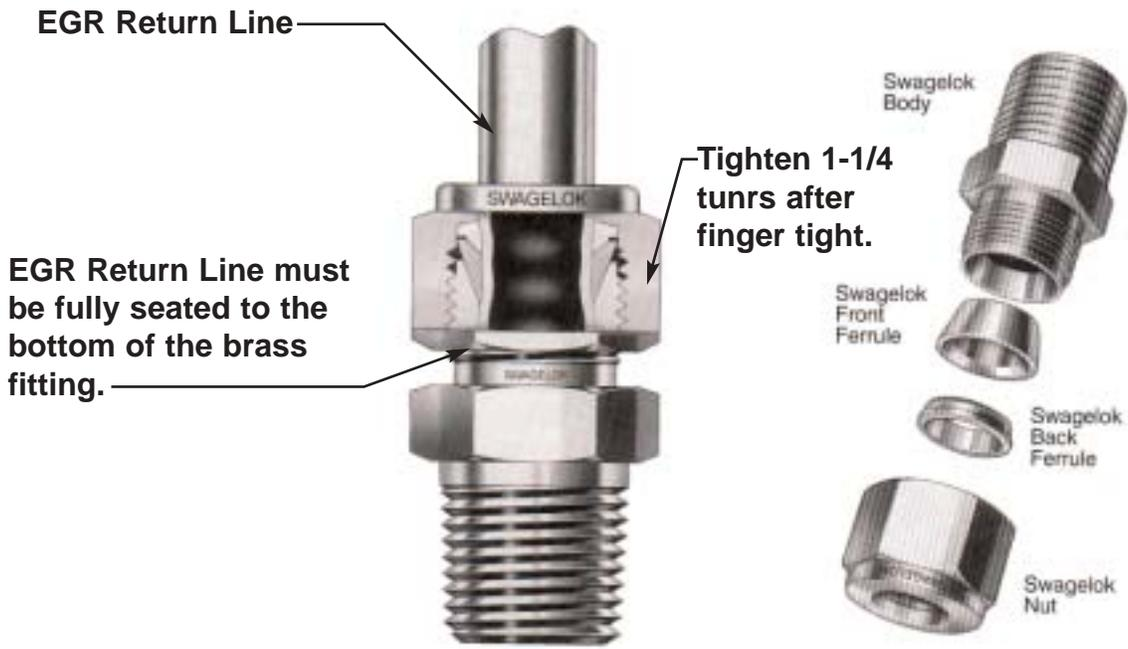

Figure 1: Brass Fitting.
20. Carefully, install the entire EGR valve, with the bracket, into the vehicle while inserting the modified EGR return line into the brass fitting on SLP's intake manifold. The modified EGR return line should simply press into the pre-assembled brass fitting approximately 1 inch. If for some reason the brass fitting becomes disassembled, refer to Figure 1 for correct assembly of the nut, ferrules, and fitting. Tighten the EGR mounting bracket to head bolts to 40 Nm (30 lb ft). Be SURE the EGR return line is FULLY seated into the brass fitting BEFORE tightening the brass fitting, see Figure 1. Once the brass fitting is finger-tight, tighten it an additional 1-1/4 turns to correctly mate the ferrules to the EGR return line. **Be sure to use a large screwdriver or similar tool to keep the brass fitting from turning**, see Photo 2. **BE CAREFUL NOT TO DAMAGE THE O-RING SEALS WHEN TIGHTENING THE BRASS FITTING AND DO NOT ALLOW THE BRASS FITTING TO ROTATE AS THIS WILL ALSO TEAR THE O-RING SEALS.** Install the two bolts that fasten the EGR feed line to the exhaust manifold and tighten to 20 Nm (15 lb ft). Connect the EGR electrical connector.